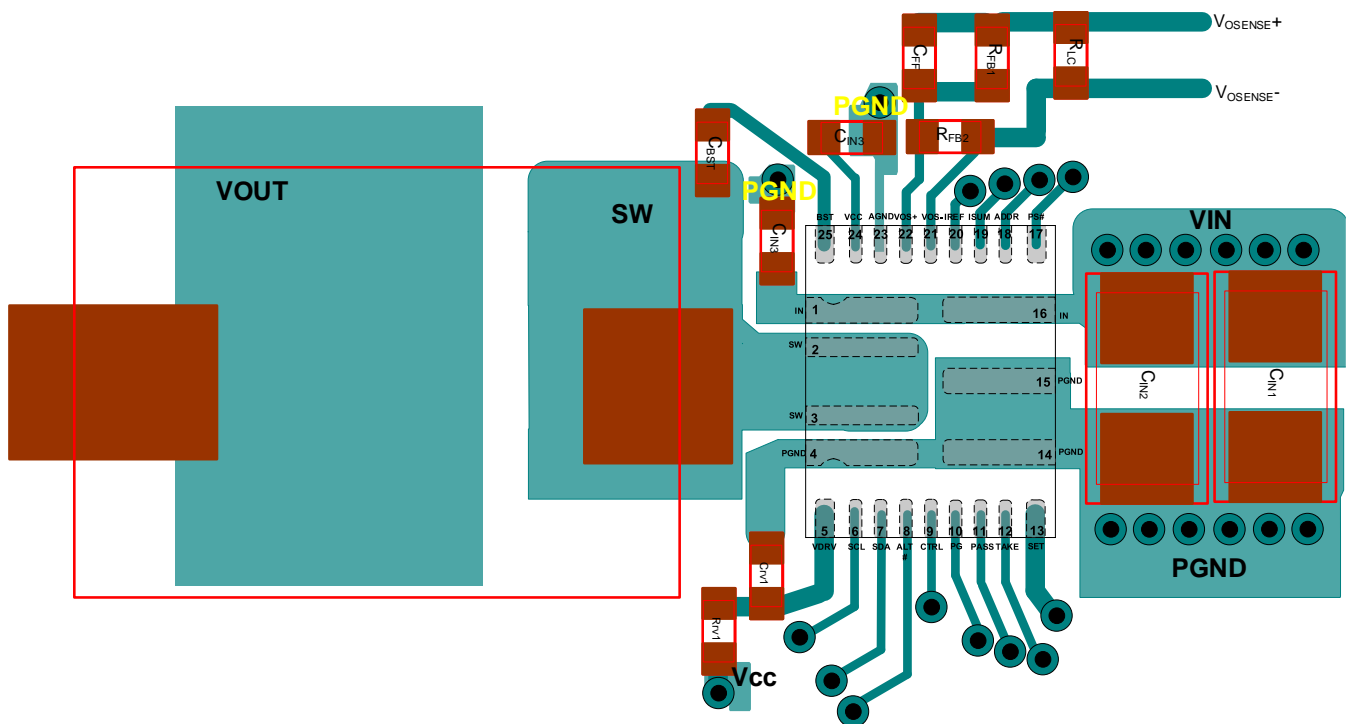

Figure 9: Recommended PCB Layout (Placement and Top Layer PCB)
Efficient PCB layout is critical for stable operation. For the best results, refer to Figure 9 and follow the guidelines below:
- Efficient PCB layout is critical for stable operation. For the best results, refer to Figure 9 and follow the guidelines below: